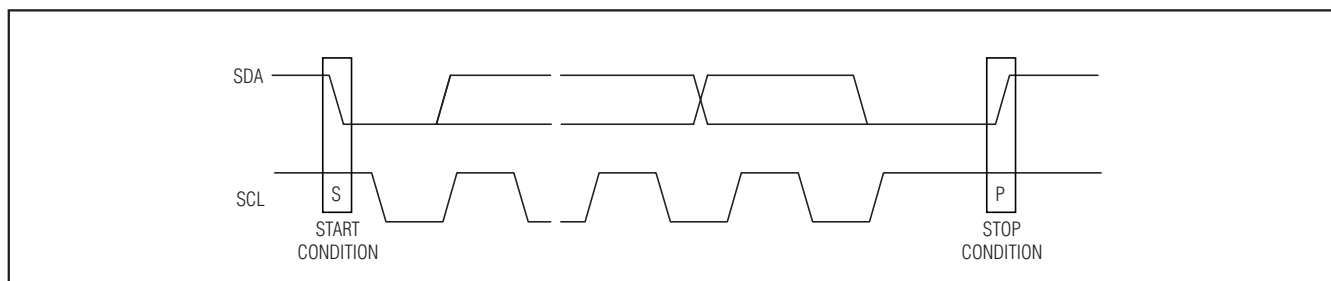

Figure 3. Standard Stop Conditions
has finished communicating with the slave, it issues a STOP (P) condition by transitioning SDA from low to high while SCL is high. The bus is then free for another transmission (Figure 3).